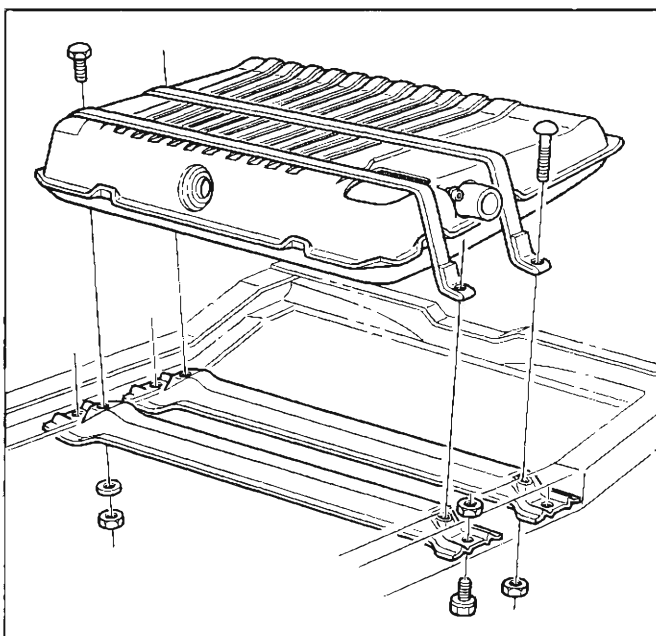

Fig. 11—Fuel Tank (Station Wagon and Pickup)
3. Remove frame screw attachments from the front support (fig. 11).
Station wagon and pickup model tanks are vented from the tank to the filler neck (fig. 11) and use a vented cap. The vent outlet pipe on the tank is connected to the vent inlet pipe on the filler neck by a rubber hose. The hose is secured with two wire clamps.